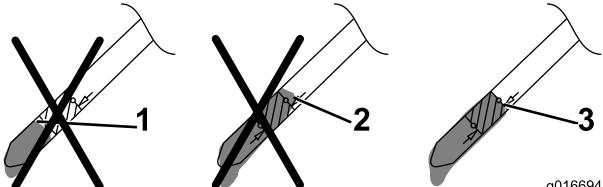

Figure 32
- Read the oil level on the dipstick (Figure 32).
- If the oil level is too low, **slowly** pour a small amount of oil into the oil-fill tube, wait 3 minutes, and repeat steps 10 through 12 until the oil level is correct as shown in Figure 32.